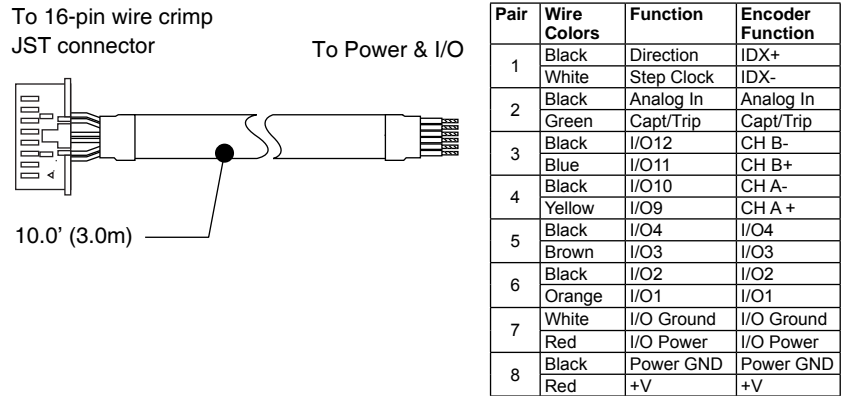

Figure 4.4 Prototype development cable PD16-1417-FL3
- Figure 4.4 Multi-drop communications using the PD10-1434-FL3 4-11